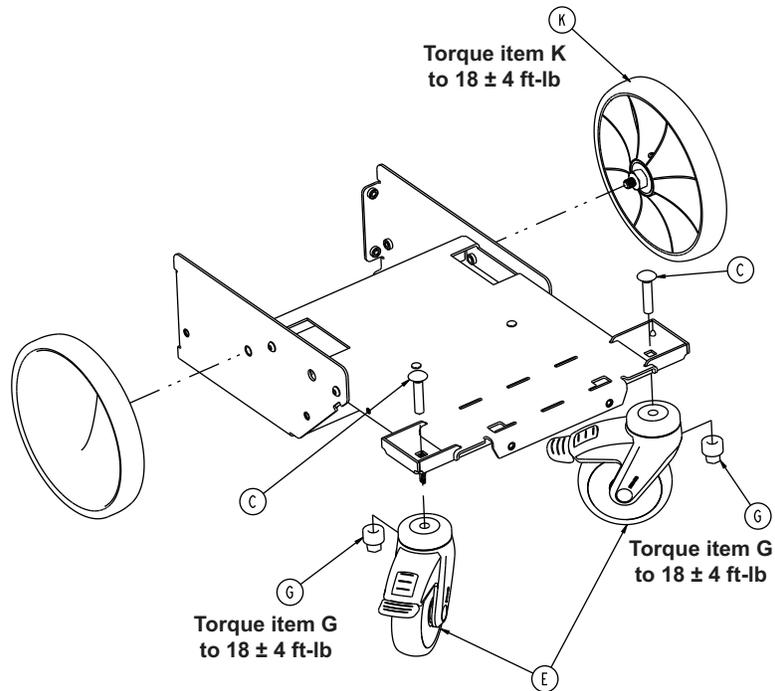

Figure 13 – Rear swivel lock casters
- Using a 9/16" combination wrench, loosen and remove the nut that secures the rear swivel lock caster to the frame. Remove and discard the rear swivel lock caster (Figure 13).